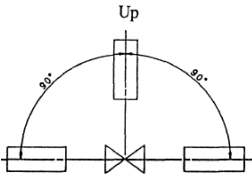

Fig. 4.
- Only when the vertical installation is impracticable, the control valve may be installed in a position within the range shown in Fig.4 , provided that the attached exhaust port of the actuator is not directed up. If the installed control valve is liable to external vibration or forces, an appropriate support should be provided for the control valve or the piping.